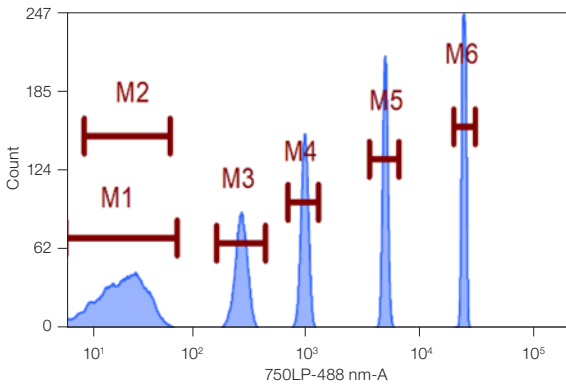

Fig. 5. Correct gating for channels with merged peaks.
5. Inspect all gates and marker regions in every plot on the FL# tabs to ensure all populations and peaks are appropriately designated and adjust if necessary. In plots where the dim bead peaks are merged, it is acceptable to overlap M1 and M2 markers (see example in Figure 5).